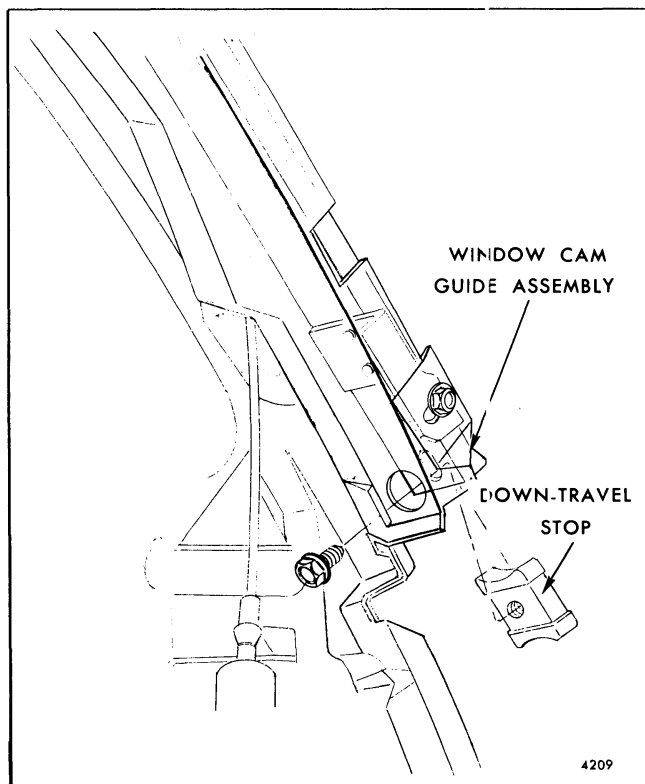

Fig. 7-91-Tail Gate Window Down-Travel Stop
7. While supporting glass, remove tail gate window down-travel stop(s) (Fig. 7-91) and carefully remove window.
Window down-travel is controlled by an adjustable stop in lower end of window right guide cam for manual tail gates and both guide cams for power operated tail gates (Fig. 7-91).